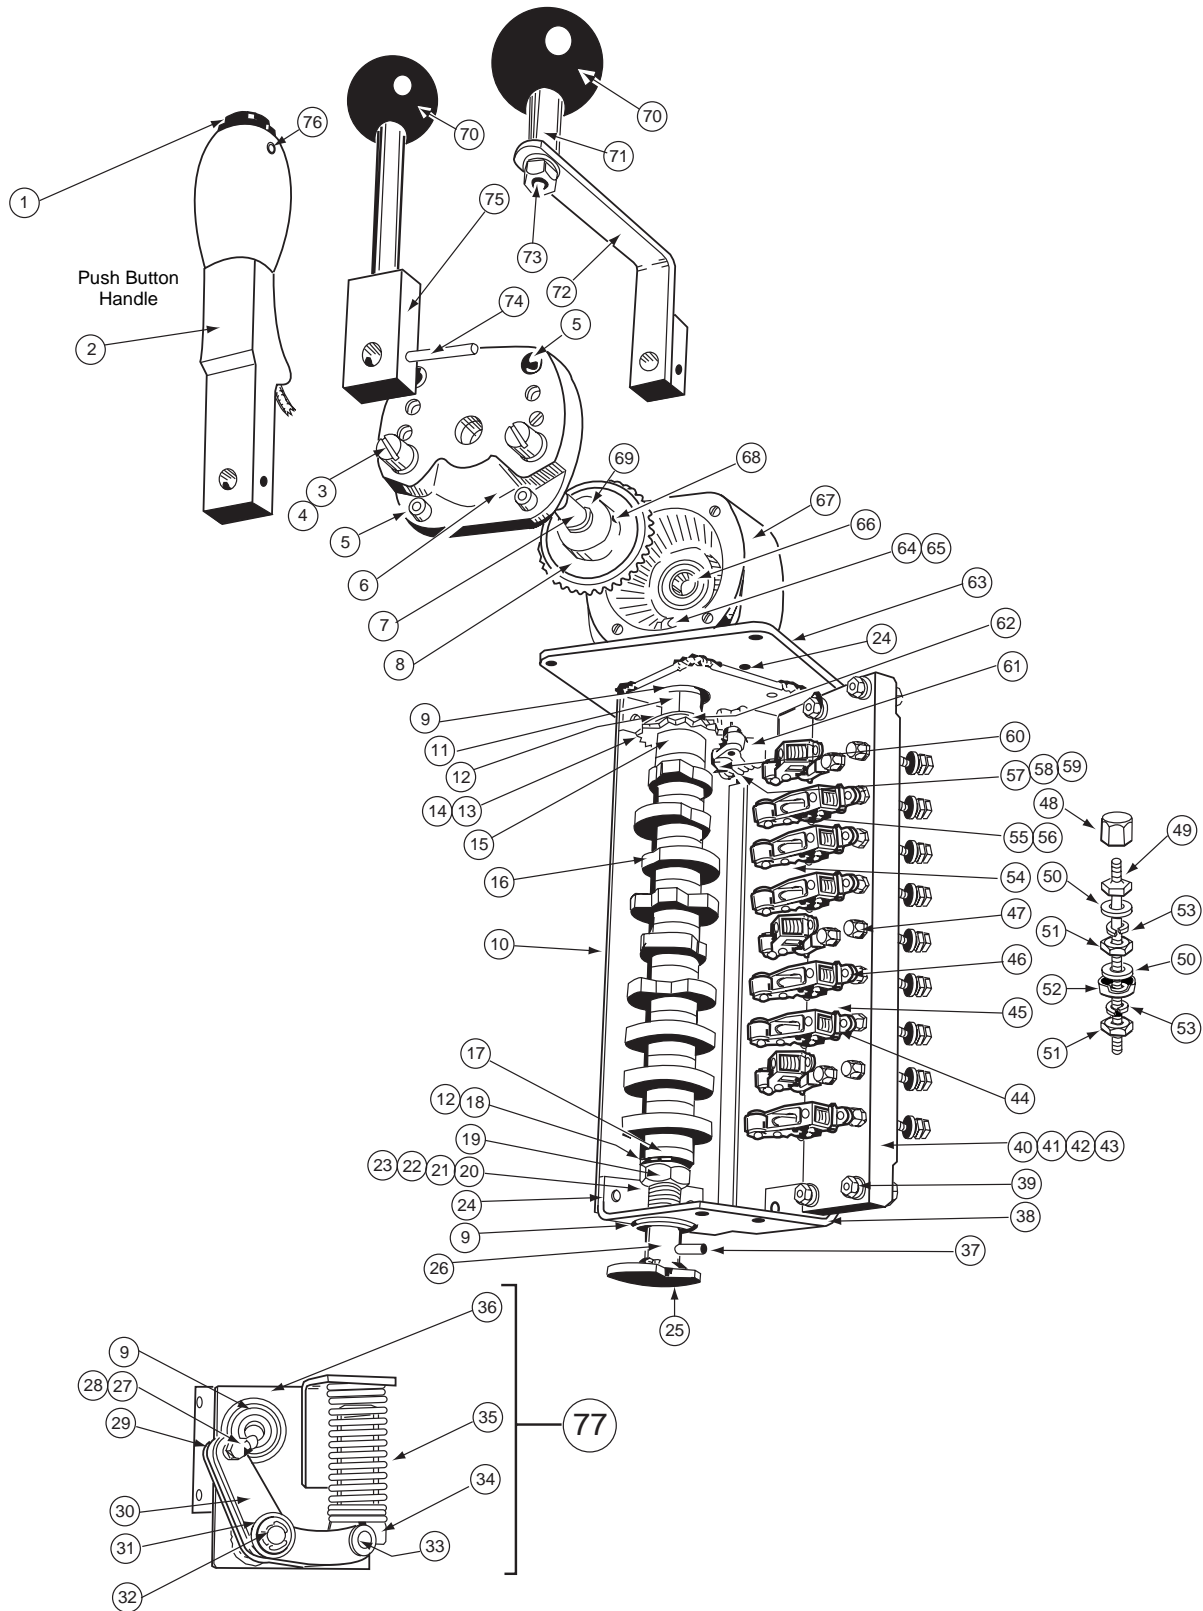

Figure 3: VM Master Switch, Series A
Item numbers in parentheses refer to Figure 3 on page 4 and Table 2 on page 5 unless otherwise noted.
2. Place the shim on the gearbox cover assembly (Figure 3).
When ordering parts, specify the quantity, part number, and description of the part, giving the complete nameplate data of the master switch. To identify items, refer to Figure 3.